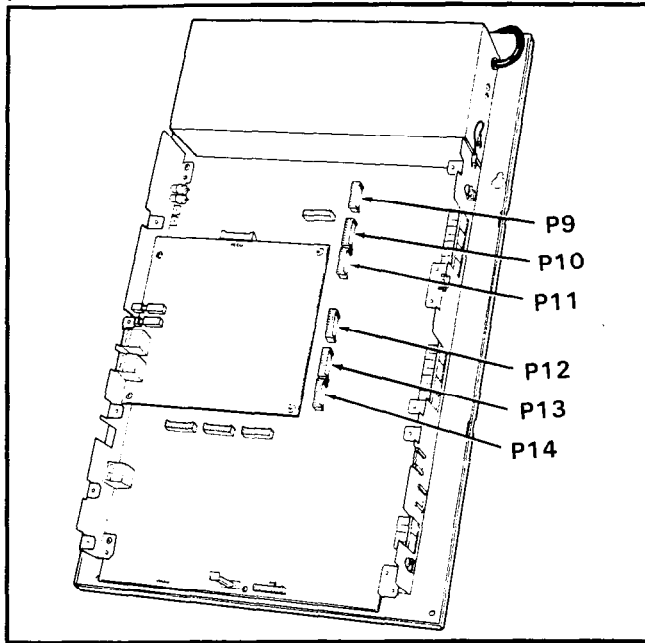

FIGURE 7—SSTU LOCATION(S)
04.43 Refer to Figures 7, 8 and 9 for the various locations of the following optional printed circuit boards.